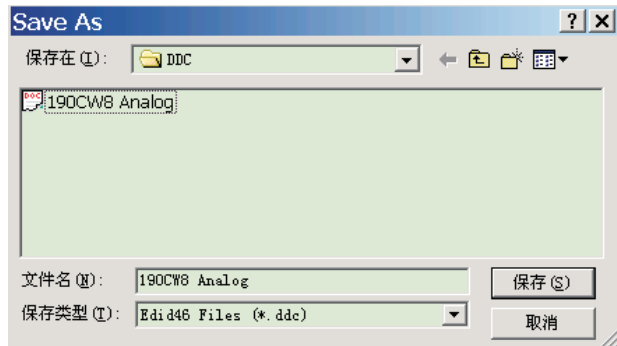

Fig. 25
1. Click  (Save) icon (or click "file"-> "save as") from the tool bar and give a file name as shown in Fig. 25. The file type is EDID46 file (\*.ddc) which can be open in WordPad. By using WordPad, the texts of DDC data & table (128 bytes, hex code) can be modified. If DDC TEXTS & HEX Table ar completely correct, it can be saved as .ddc file to re-load it into DDC IC for DDC Data application.